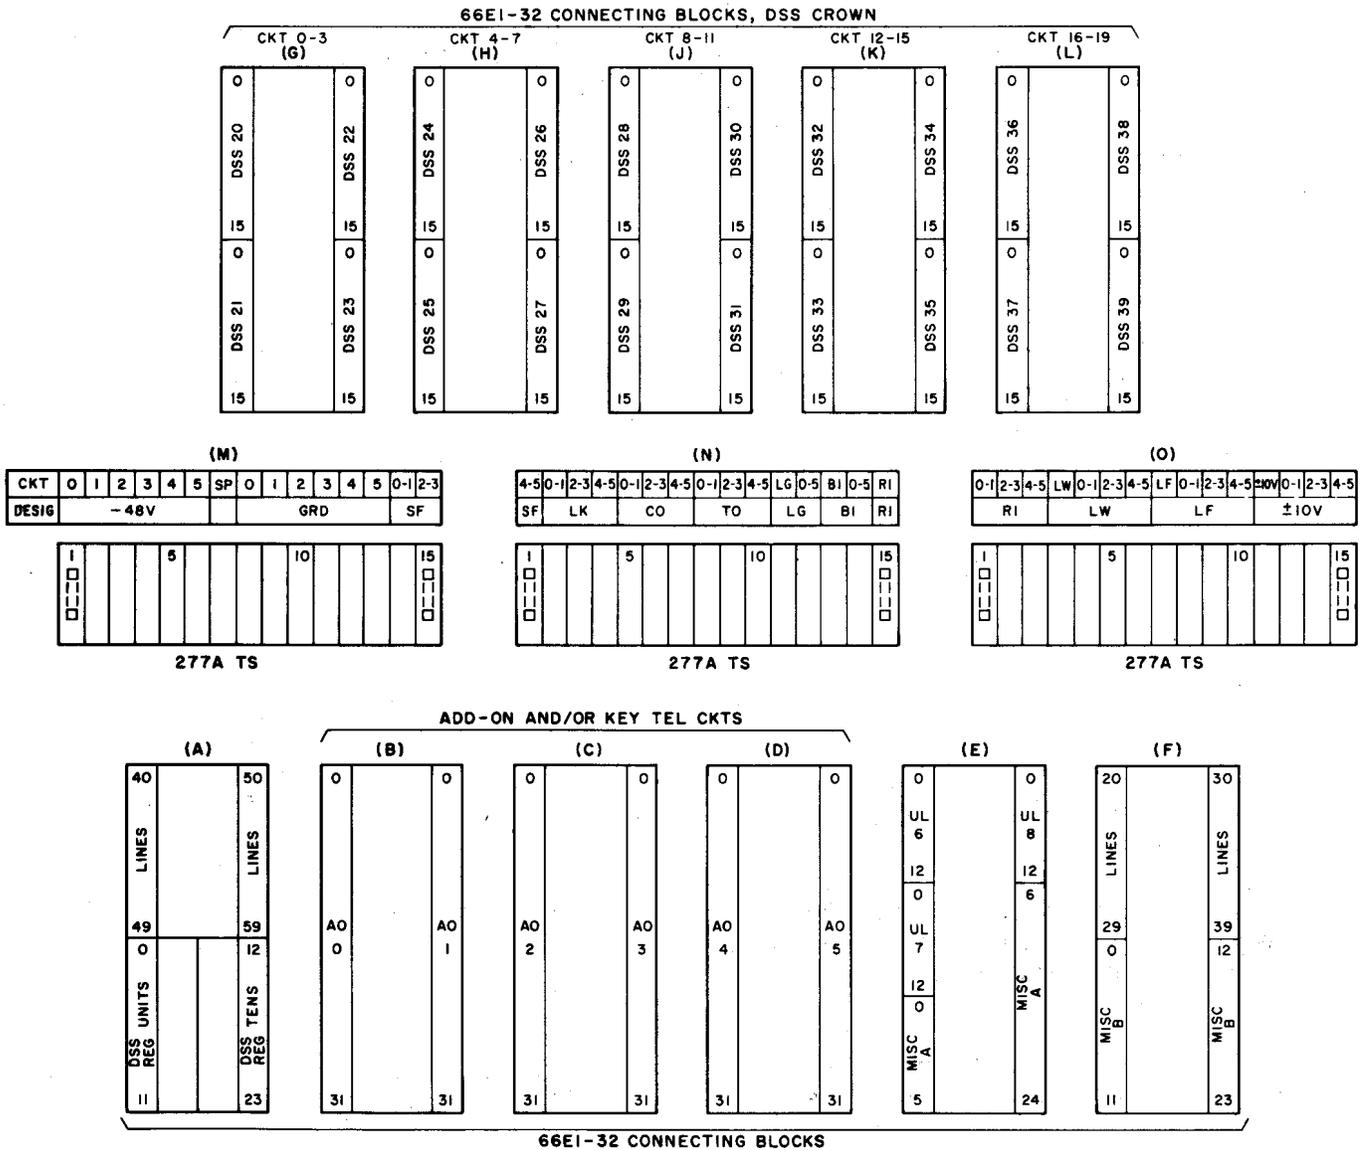
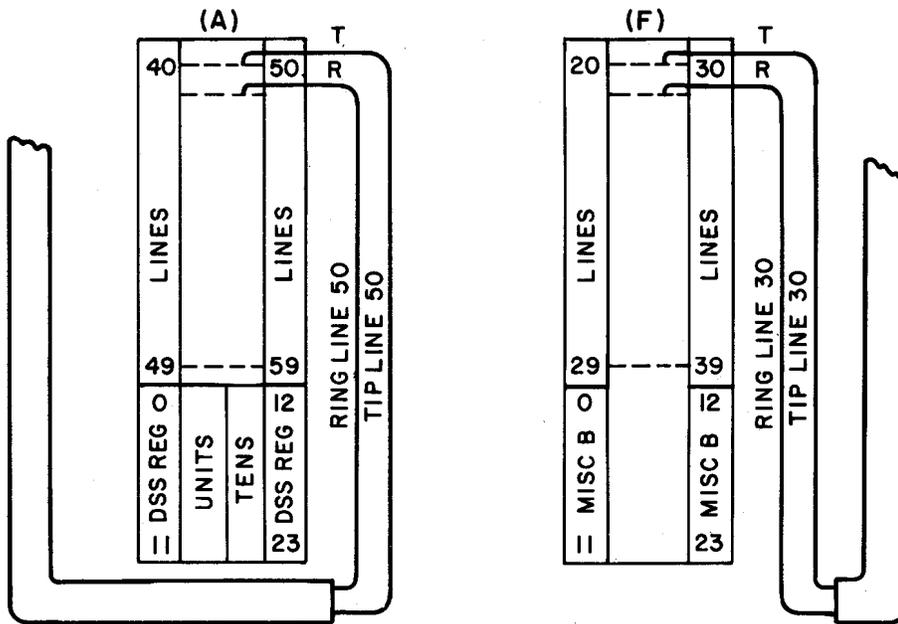

Fig. 1—Layout of Connecting Blocks and Terminal Strips of J53035A Lists 3, 4, 8, and 9 (MD) Cabinet Assemblies
Fig. 3—Method of Terminating Tip and Ring Leads
1.03 The 66E1-32 (quick-connect type) connecting blocks in the crown of the cabinet are split 4-clip, 32-terminal blocks. For purposes of this section, the method of designating and counting blocks is shown in Fig. 1. Blocks G through L appear in Lists 4 and 9 (MD) cabinet assemblies only. For information covering this type of block see Section 461-616-101 and 461-616-102.
- (1) Connect *T* and *R* leads from station to designated terminals in crown of cabinet as shown in Fig. 3. Refer to Fig. 1 for position of blocks A and F.